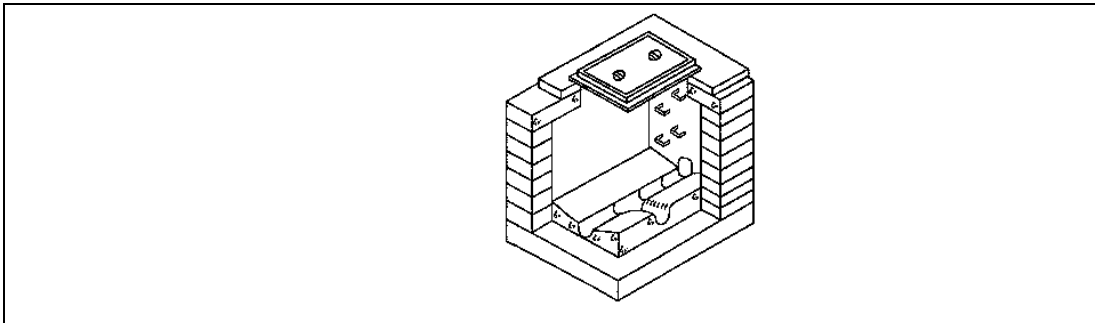

FIGURE 3.6
- 3.6 Answer the following questions with regard to the structure in FIGURE 3.6: